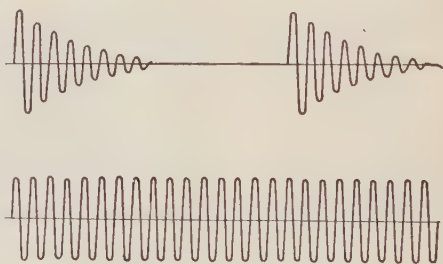

FIGURE 713.—A continuous train of undamped waves, below, is contrasted with two trains of damped waves, above.
**Transmitting.**— Various methods of radiating a continuous train of undamped waves (Figure 713) have been devised. The one most commonly used employs three electrode tubes as high-frequency generators. The circuits used are generally complicated, but their principle of action